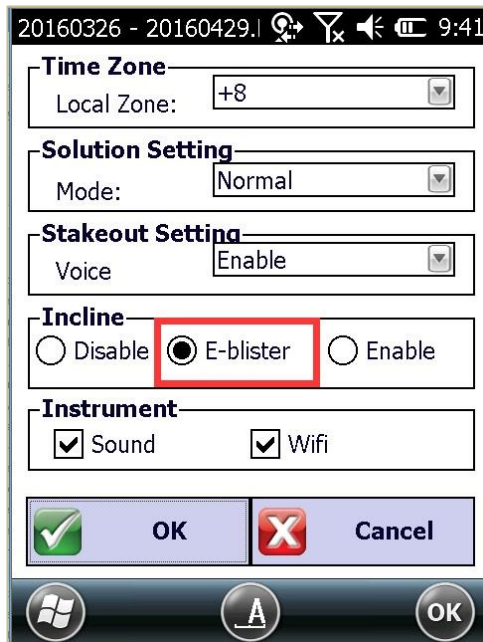

Fig 5-30
- ① Open the option of the E-bubble: Click “Setting”→“System”. Select the function of the E-bubble, as shown in the figure 5-30, then click “OK”.